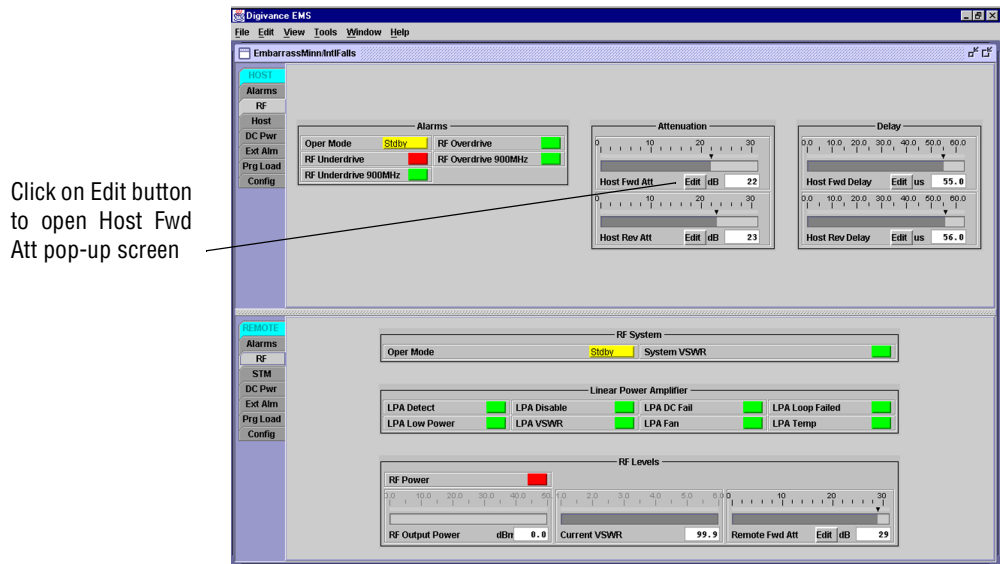
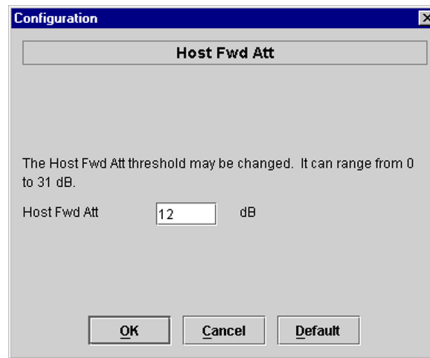

Figure 3-8. HOST RF Display
Figure 3-9. Host Fwd Att Pop-Up Screen
- Click on the **HOST RF** tab. The **HOST RF** display will open within the EMS main window as shown in Figure 3-8.
2. Click on the **Host Fwd Att Edit** button (see Figure 3-8). The **Host Fwd Att** pop-up screen will open as shown in Figure 3-9.